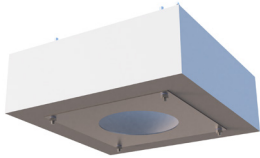

Figure 11
5. Position the Inner Surface Plate (F) over the protruding threaded rods on the underside of the structure and secure using M12 nuts and washers. Tighten the nuts to secure both the Outer Surface Plate (E) and the Inner Surface Plate (F) as Figure 11.